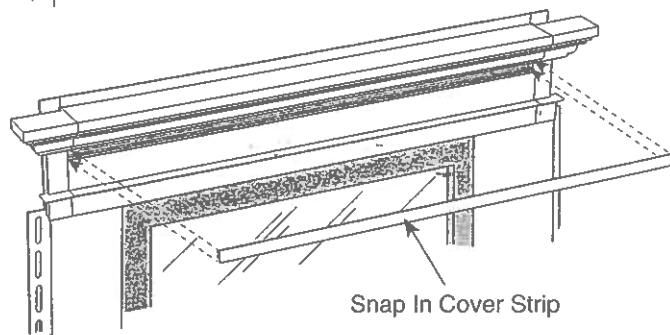

Figure 8
8. Install the cover strip, starting from one end and working cover strip in with the pressure of thumb or fingers (Figure 8).